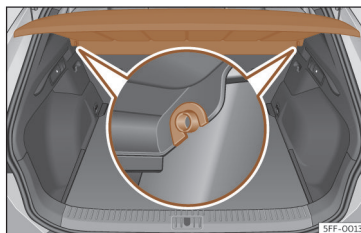

Fig. 187 In the luggage compartment: removing and installing the shelf.
- Remove the rear shelf from the side supports >>> **Fig. 187** by pulling it upwards and then take it out.
- Insert the cover horizontally so that the "recess" fits onto the axis of the supports >>> **Fig. 187** and press down until it engages.